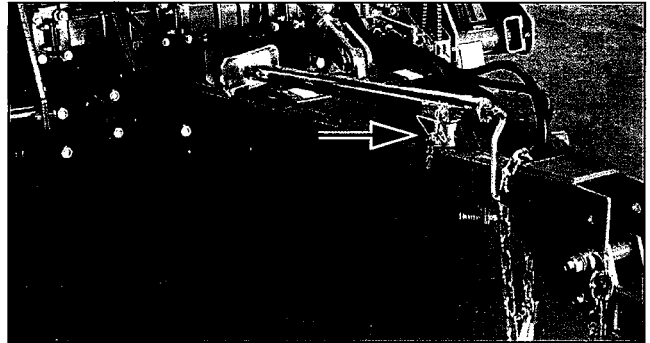
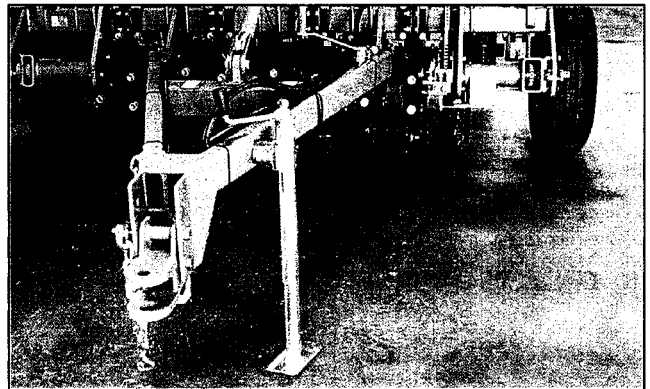

Figure 25
Figure 26
4. Move jack to side stob near hitch. Re-pin as shown in Figure 26. If ground is soft, place a board or plate under jack.
Refer to Figure 25 and Figure 26